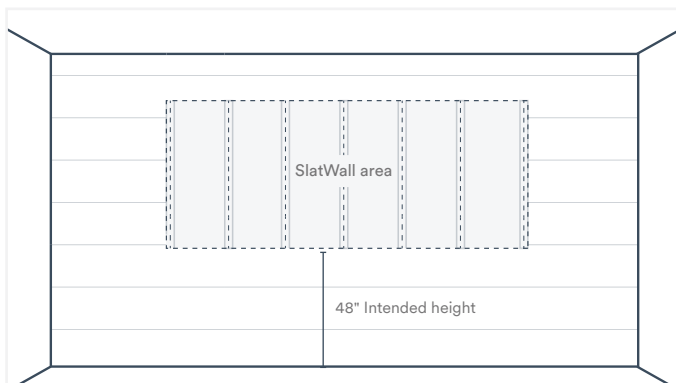

Fig. 22
- The distance from the floor to the bottom of the first SlatWall panel is an even increment of 16" (the width of the exposed face of Wall&CeilingBoard panels). The resulting connection between SlatWall and Wall&CeilingBoard is shown below (Fig. 22).